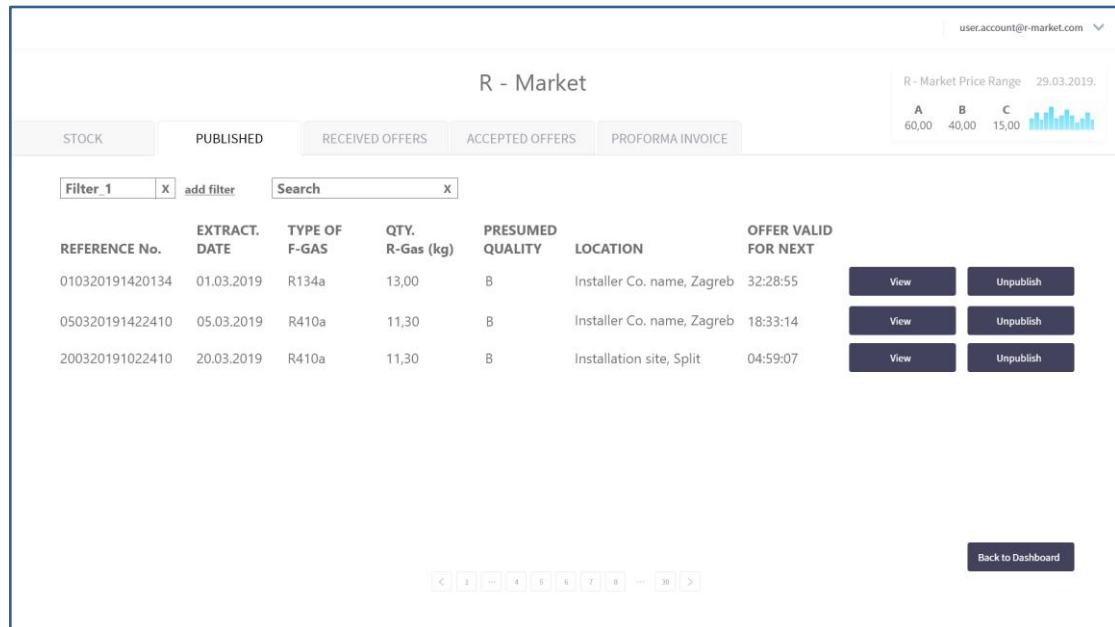

Figure 5: User interaction and design for "Published" tab.
The Installer Co. admin selects the second (2nd) option from the five (5) options / functionalities available to manage R-Gas published on the market. A template of user interaction and design for R-Market tab with "Published" option enabled, is depicted in **Figure 5**: